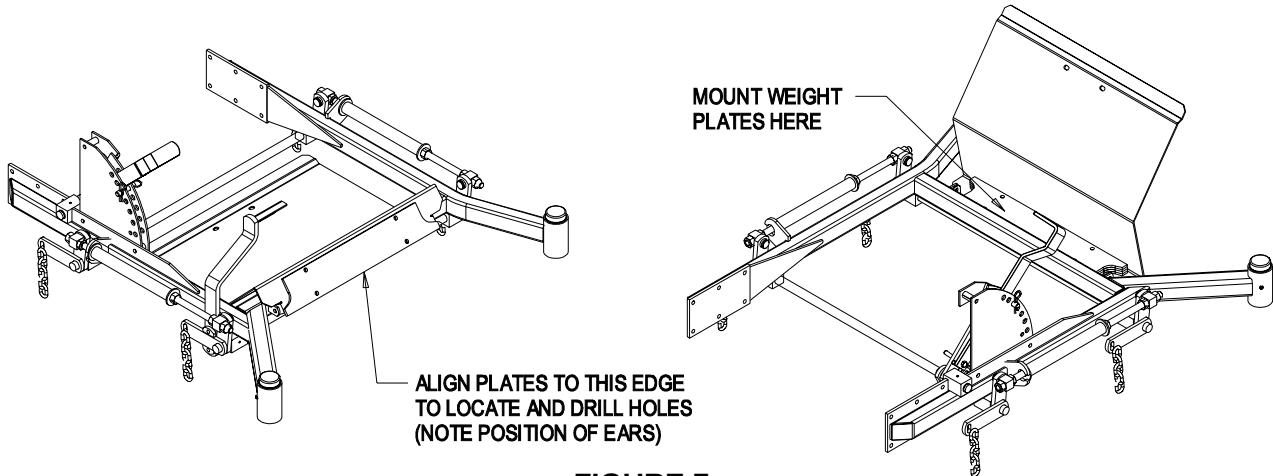

FIGURE 7
2. Locate the position of the mounting holes by clamping a weight plate to the front of the floor pan (See Figure 7). The ears on the weight plate should be towards the bottom (upside down from the actual mounted position). Align the bottom edge of the weight plate with the bottom edge of the floor pan front panel. Center the weight plate side to side. Mark the position of all four holes using a center punch.